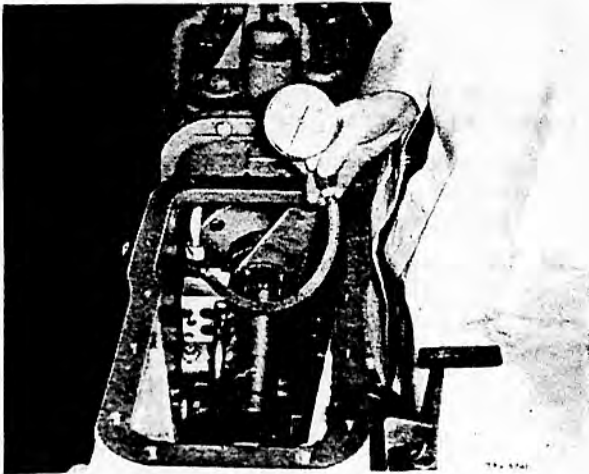

FIGURE 42. CHECKING OPERATING PRESSURE
5. Screw pressure hose into adaptor MF.260-1. Figure 42 shows complete assembly.